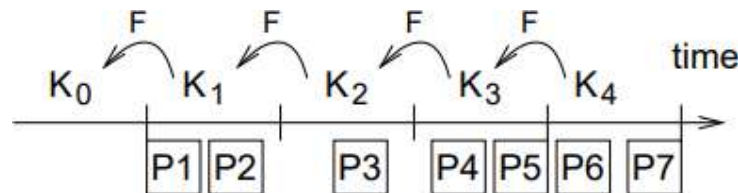

Figure 4.10 Key setup
- For example, Figure 4.10 shows an example of μ TESLA. Each key of the key chain corresponds to a time interval and all packets sent within one time interval are authenticated with the same key. The time until keys of a particular interval are disclosed is 2 time intervals in this example.